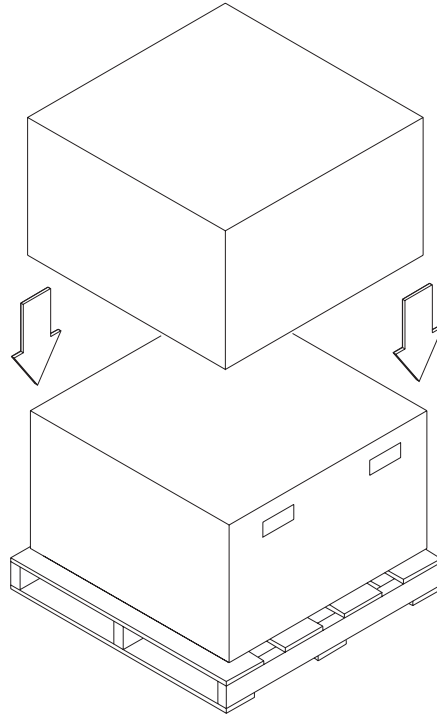

Figure 9-6 Sliding the outer sleeve over the shipping carton
9. Place the outer sleeve over the entire box, as shown in Figure 9-6.